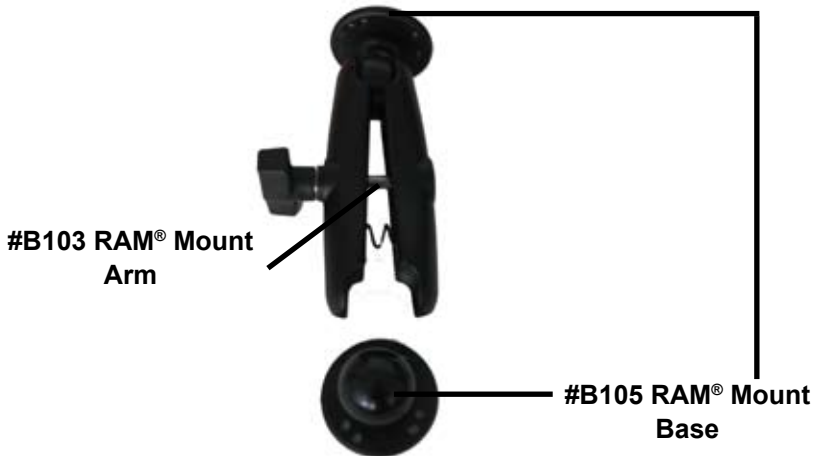

Figure 6-1. #B103 - RAM® Mount Arm and #B105 RAM® Mount Base
1. Locate the RAM® Mount component (Figure 6-1) from the kit